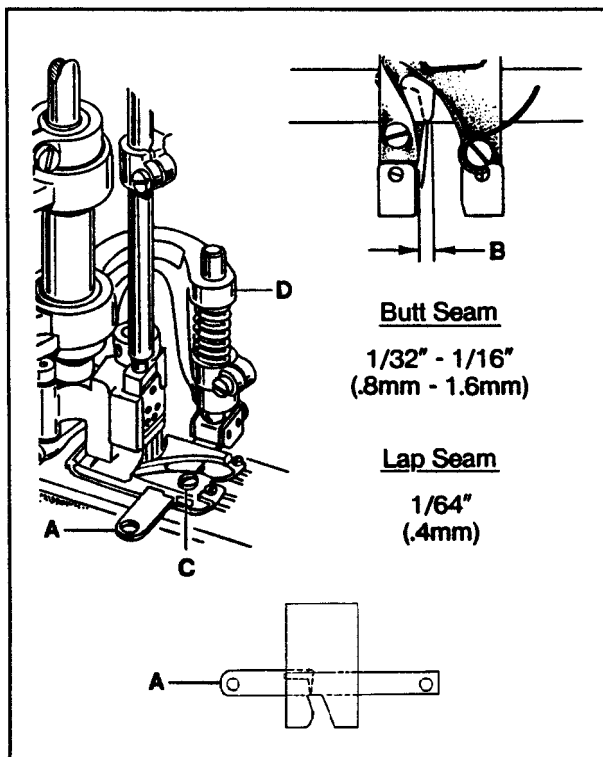

FIG. 29
To make the adjustments for a flat, butt seam, position lower knife (A, Fig. 29) in the foot so it extends $\frac{1}{32}$ " to $\frac{1}{16}$ " (0.8mm to 1.6mm) past the right side of the left toe (B) (approximately between the second and third needles). Loosen screw (C) and move knife in or out as required. Tighten screw (C) securely.
To make the adjustments for a lap seam, position lower knife (A, Fig. 29) in the foot so it extends $\frac{1}{64}$ " (0.4mm) past the right side of the left toe (B) (approximately even with the first needle). Loosen screw (C) and move knife in or out as required. Tighten screw (C) securely.